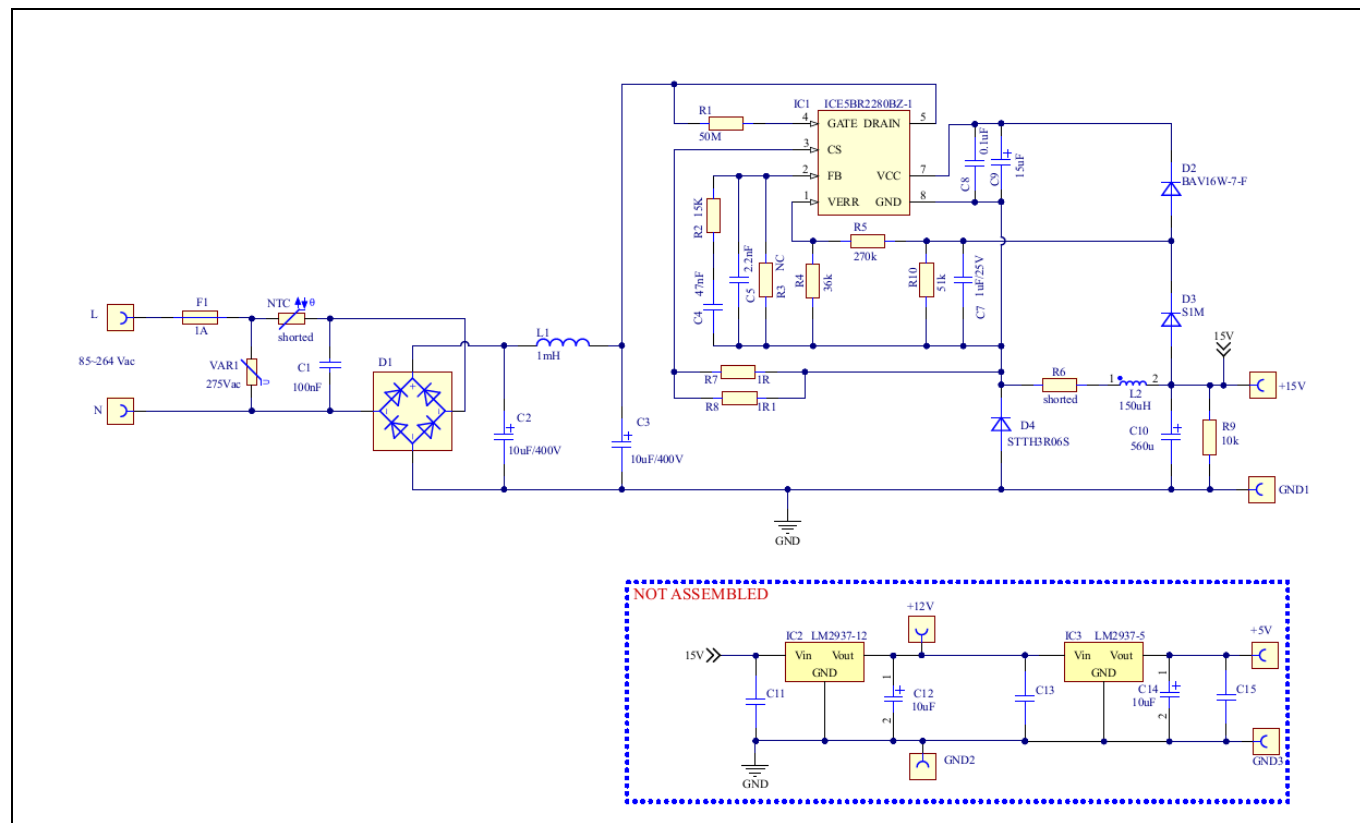

Figure 18 Schematic of EVAL_5BR2280BZ-1_700mA1
2. Place the filter capacitor close to the controller ground: Filter capacitors (C4, C5, and C8 in Figure 18) should be placed closer to the controller ground and the controller pin to reduce the switching noise coupled into the controller.
To reduce the switching losses during CCM operation, an ultra-fast freewheeling diode (D4 in Figure 18) with a reverse recovery time (t_{rr}) of 35 ns or less is recommended.